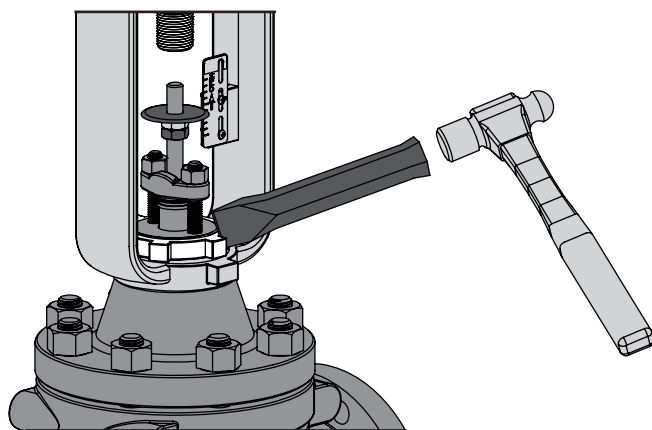

Figure 9 Yoke Locknut Tightening Detail
- C Secure the actuator for hoisting using the procedures mentioned in the Unpacking section (Page 4). Using a heavy blunted chisel or metal rod and a hammer, loosen the yoke locknut as shown in Figure 9.